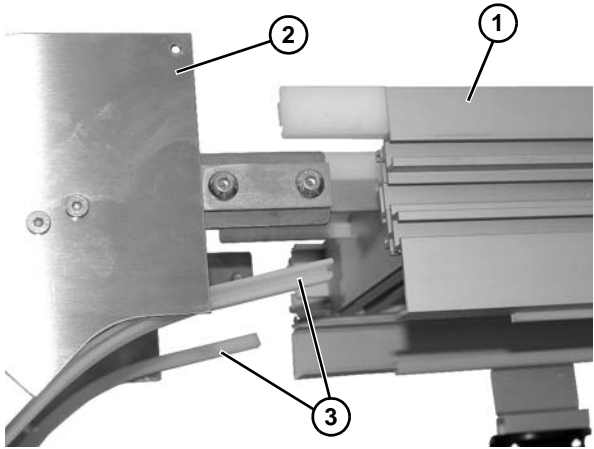

Figure 108
5. Remove upper frame (Figure 108, item 1) from upper knuckle (Figure 108, item 2) and off of wearstrips (Figure 108, item 3).